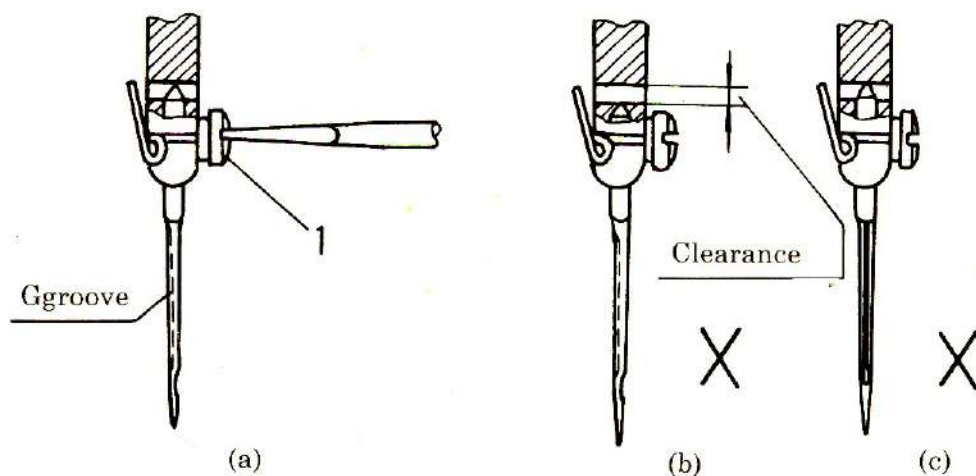

Fig.10
3. To attach the needle (fig 10)
②The position of the attached needle as shown in (a), fig 10 is correct. Both the needles as shown in (b) and (c) of fig 10 are wrongly attached, the bat of the former does not touch the end of the hole, and the long groove of the latter does not face the specified direction.